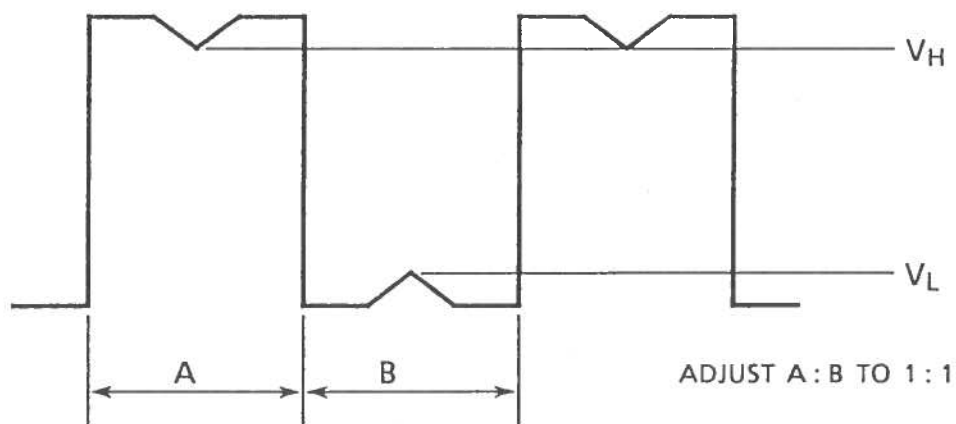

Fig. 9.7 Track 0 Waveform
- (2) Step between specified tracks as shown in the FLAG 0 item of Table 8.1 (Turn the seek delay switch on the exerciser to adjust 12 ms seek.)
- (3) Loosen the track 0 sensor screw and adjust until the waveform on the oscilloscope appears as shown in Fig. 9.7.